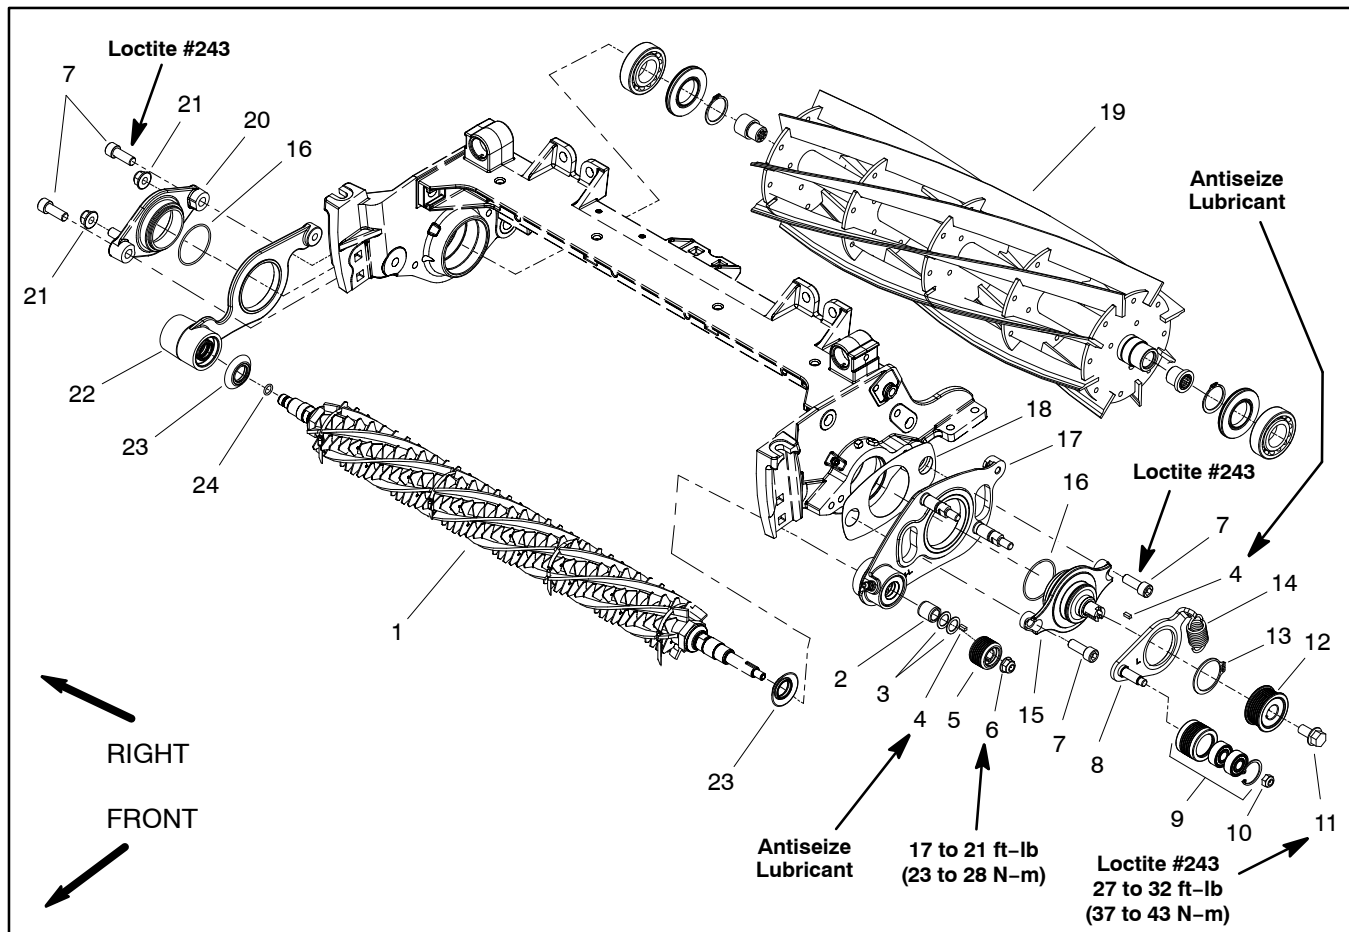

Figure 4
**NOTE:** The groomer reel drive is located on the opposite side of the cutting unit from the cutting reel hydraulic motor. Figure 4 shows components used when the groomer reel drive is on the left side of the cutting unit.
### Removal (Fig. 4)
### Installation (Fig. 4)